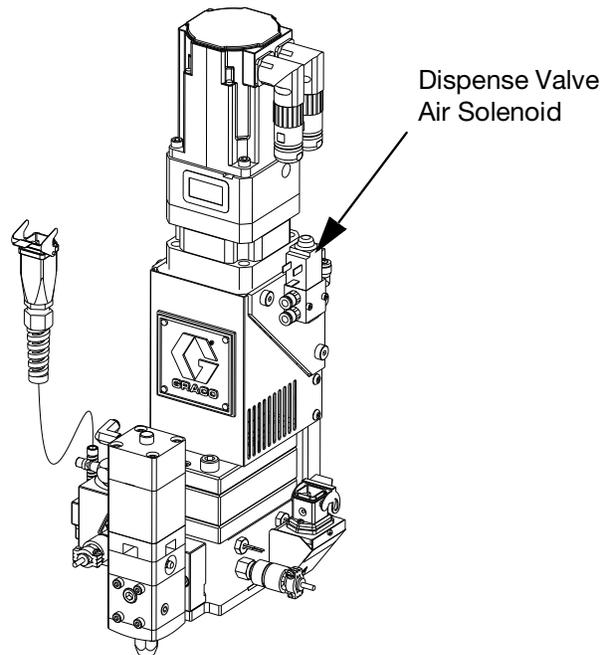

FIG. 23: Dispense Valve Air Solenoid
- For direct mounted dispense valves, replace o-ring (409) if necessary.
- Install four mounting bolts (408) torque to 50-60 in-lb (5.6-6.7 N•m).
6. Manually shuttle solenoid, see FIG. 23. Verify dispense valve is open when solenoid is depressed.